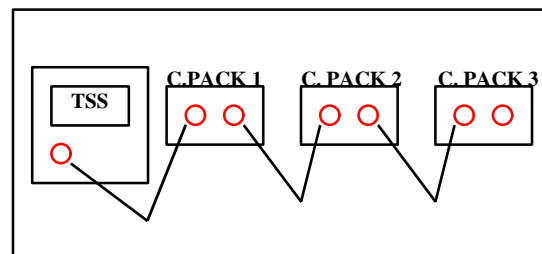

Figure 2: Daisy-chaining the communication packs
3. Use another cable to connect the Bin 1 communication pack to the Bin 2 communication pack, and another cable to connect Bins 2 and 3 until all of the packs have been linked. (Daisy Chain--Figure 2).